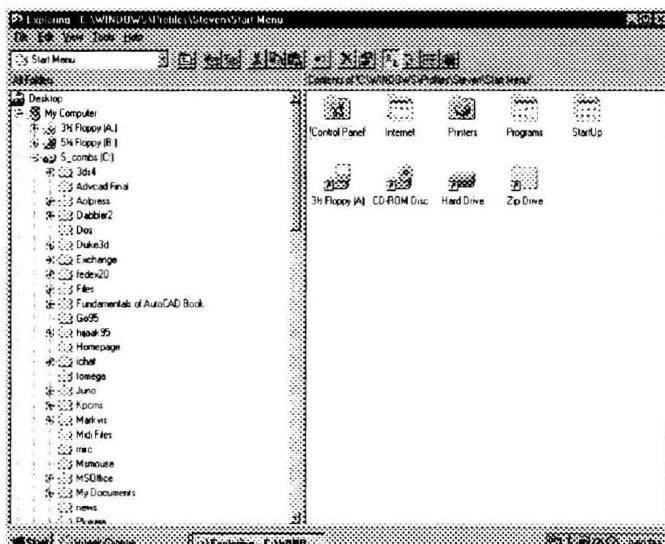

Figure 1.6 The Windows Explorer.
3. Select the **E**xplore option. The Windows Explorer will be started as shown in figure 1.6. The Windows Explorer is a file management tool that is included with Windows to allow for easy file management. There are many functions and features of this tool. Consult a Windows manual for more information on its use. On the right-hand side of the Windows Explorer are all of the folders that are contained on the taskbar.